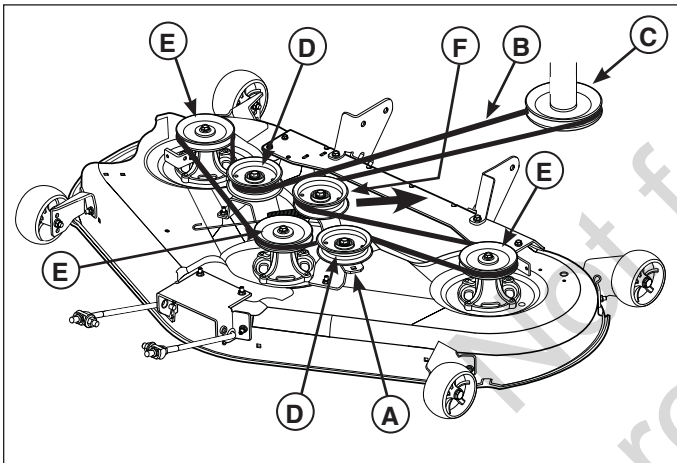

Figure 18. Mower Belt Routing
3. Pull back on the tensioning idler (F, Figure 18) in the direction indicated by the arrow, and remove the mower belt from the PTO pulley (C).
6. Pull back on the tensioning idler (D, Figure 18) in the direction indicated, and install the belt onto the PTO pulley as shown in Figure 18.